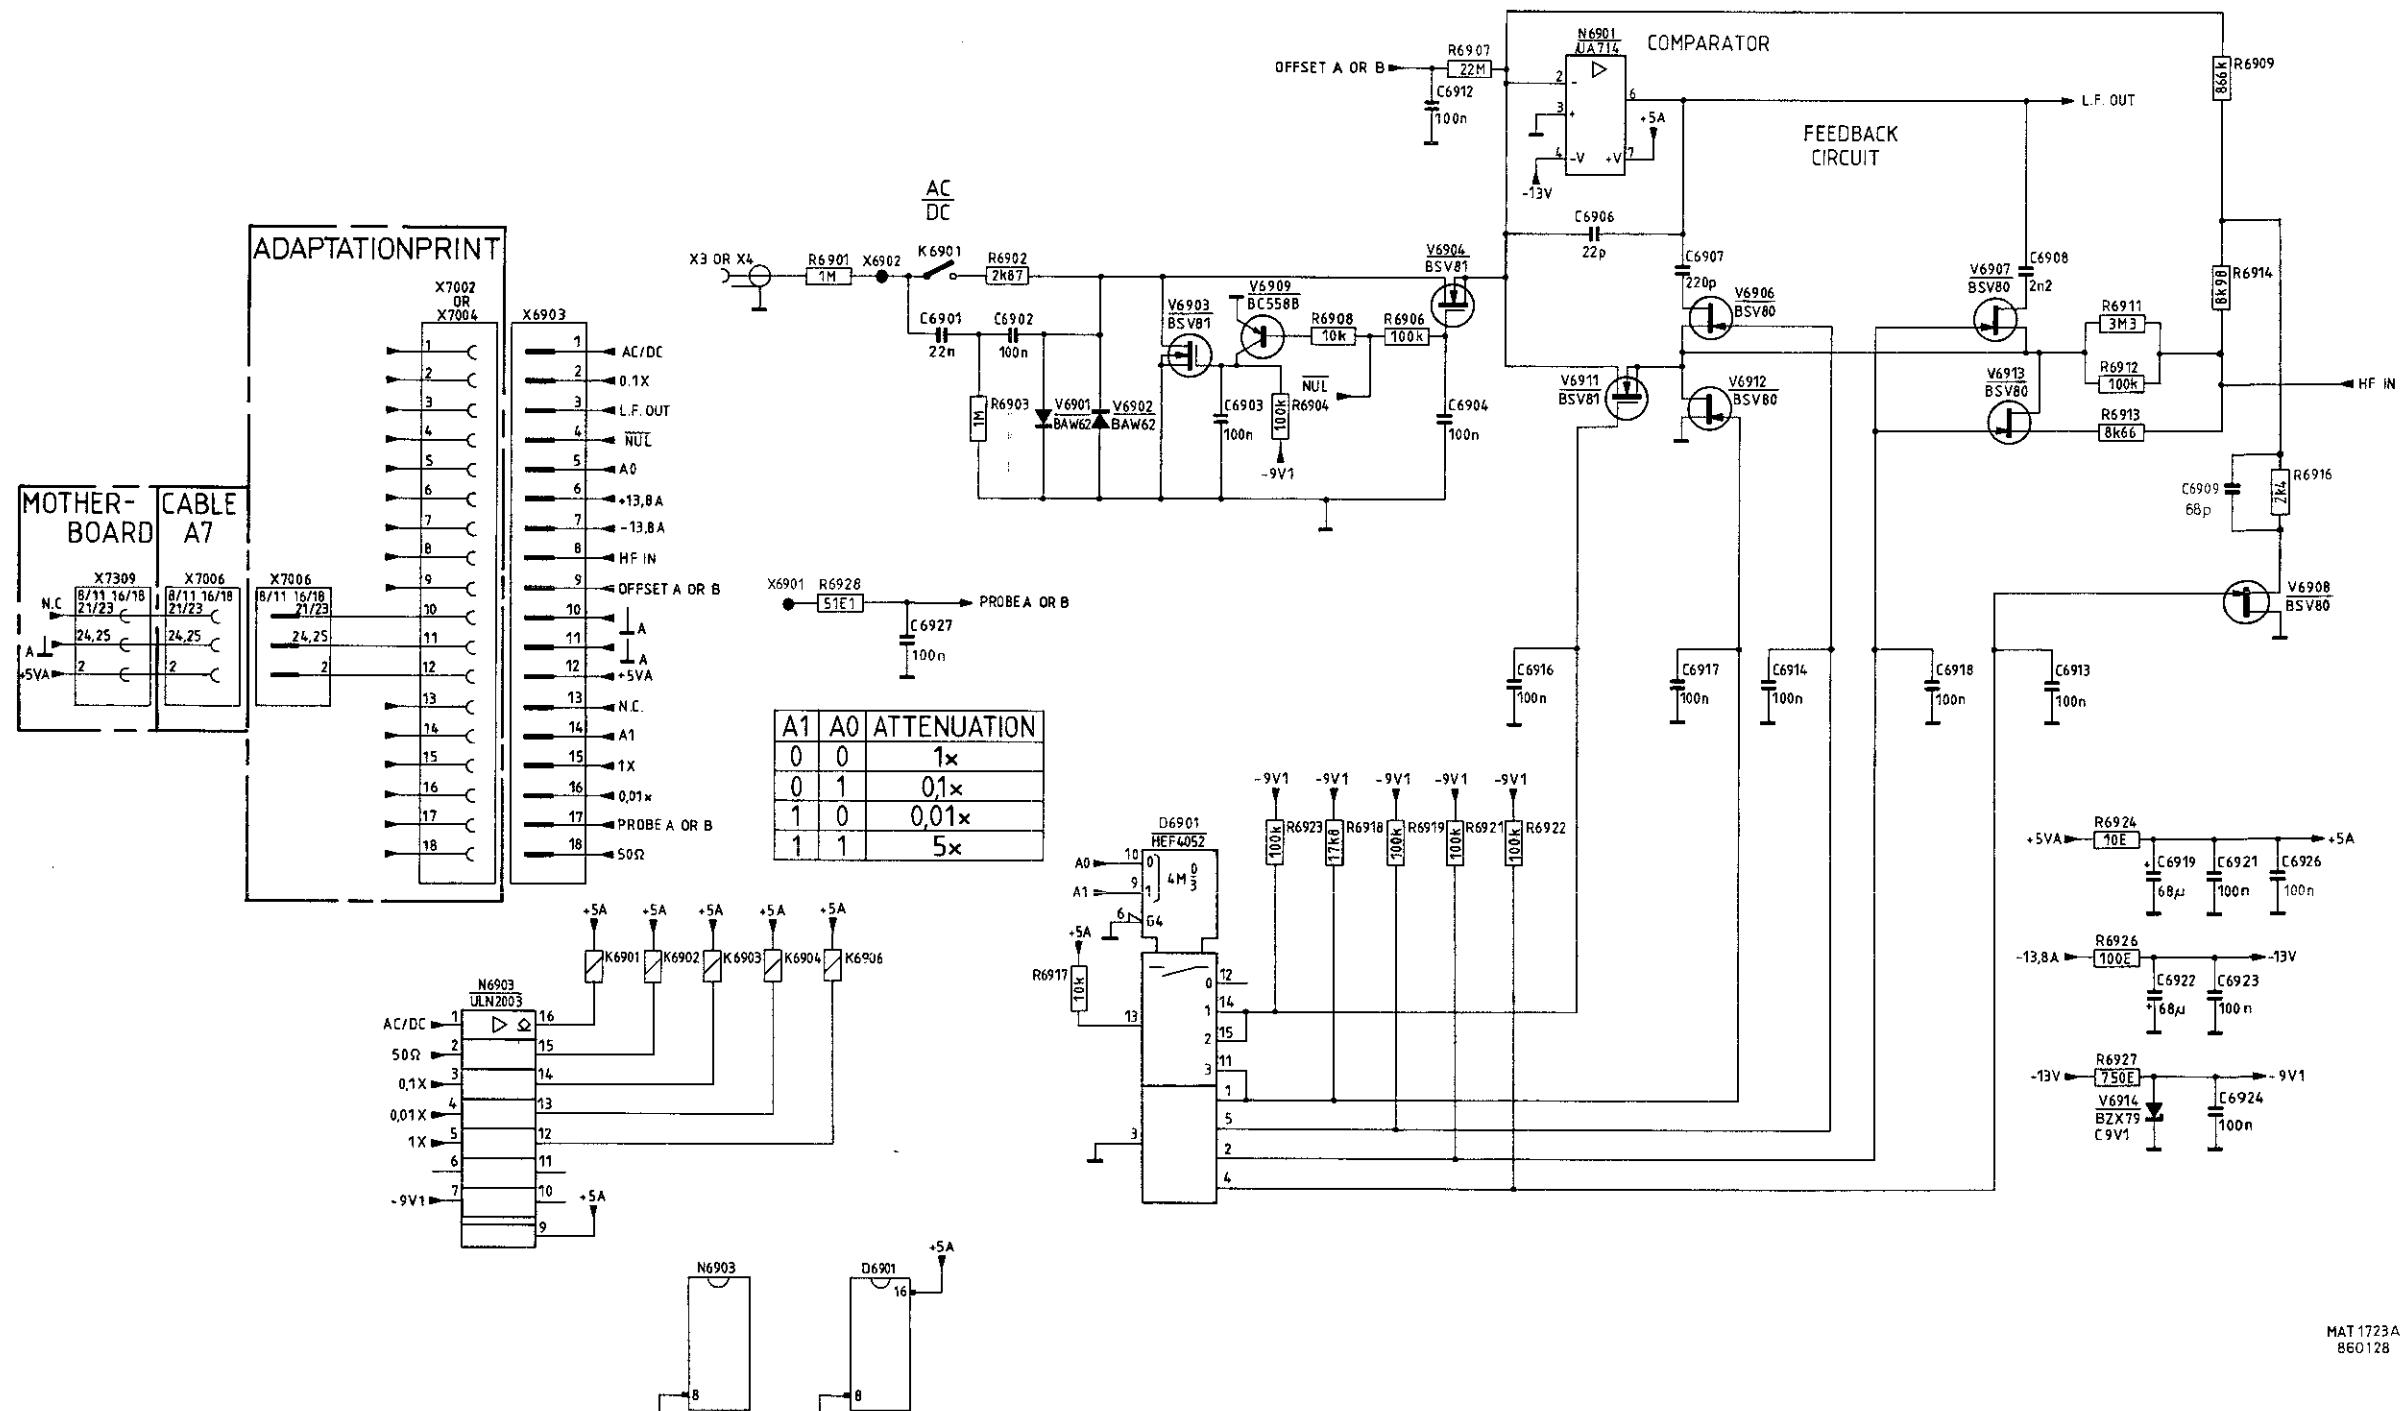

Fig.10.3. LF attenuator unit, circuit diagram.
- 10.3 CIRCUIT DESCRIPTION OF THE LF ATTENUATOR UNIT (see fig.10.3.)